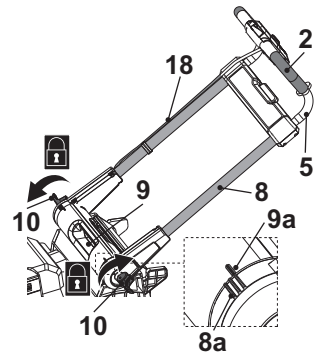

Fig. 2
3. Secure the handle assembly by folding up the clamp lever (10) towards the transport handle (9). If clamp lever (10) cannot be folded, loosen it and fold again. If it is too loose, tighten it by turning the clamp lever (10) clockwise (Fig. 2).